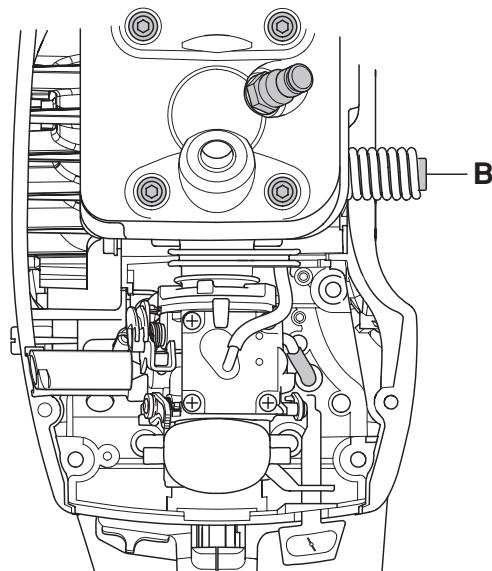

Fig. 1
2. Detach the springs from the cylinder with the help of a 4 mm Allen key. See fig. 1.
2. Attach the springs to the cylinder with the help of a 4 mm Allen key. See fig. 1. Tighten the bolts to 10 Nm.
2. Remove the impulse hose (A) from the hole on the inlet manifold. See fig. 1.
3. Detach the anti-vibration springs (B) from the cylinder. See fig. 1.
4. Undo the four cylinder retaining bolts (C). See fig. 1.